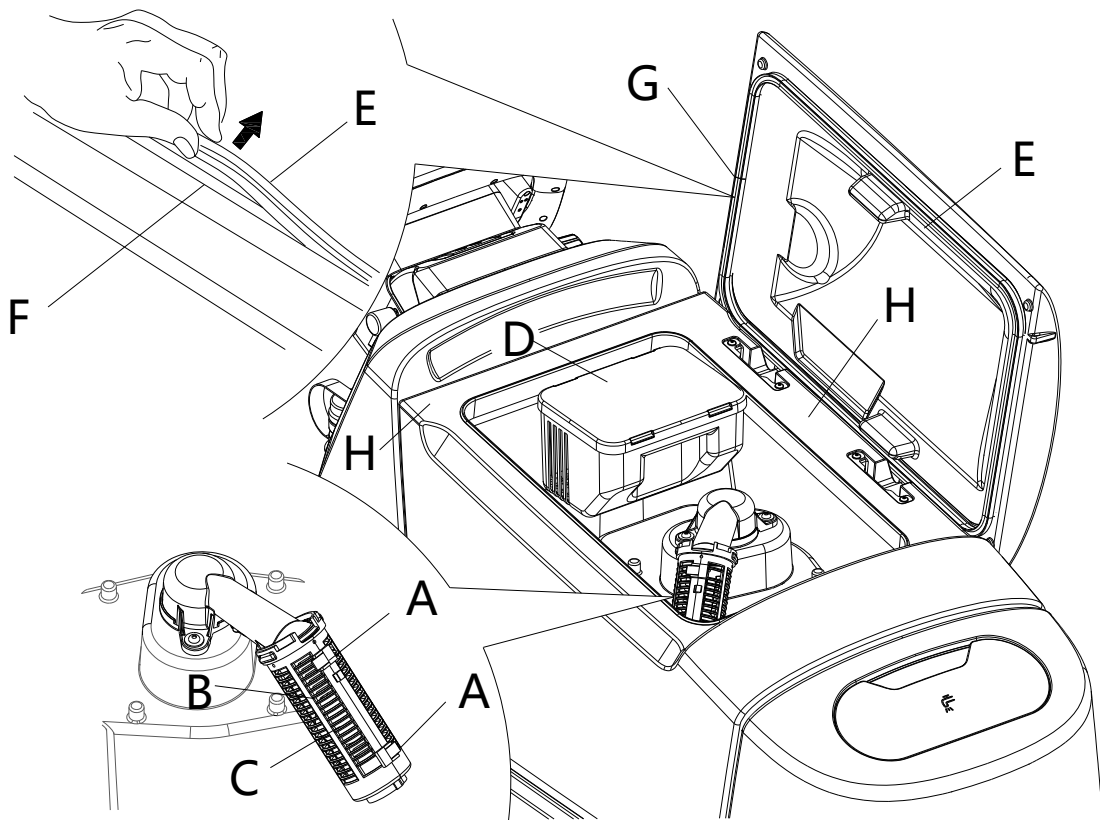

Figure 15
2. Turn off the machine with press power button (62).
3. Raise the cover (2).
4. Wash the inside of the tank (3) and the cover with clean water.
5. Drain the water in the tank through the hose (18).
6. Clean the vacuum grid (30), release the fasteners (A, Fig. 15), open the grid (B) and recover the float (C) then clean it carefully and reinstall it.
7. Remove the debris collection tank (D) and open its cover, then clean it carefully and reinstall it on the vacuum hose.
8. Check the condition of the tank cover gasket (E). If necessary, replace the gasket (E) by removing it from its housing (F). When fitting the new gasket, position the joint (G) in the lower area, as shown in the figure.